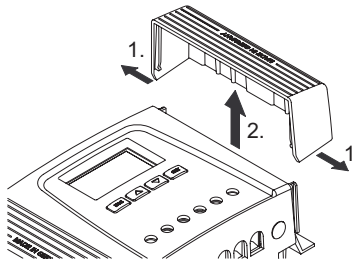

Fig. 9 Release the cover from the end position (here the right cover)
1.  Grip the cover with both hands as shown in Fig. 9.